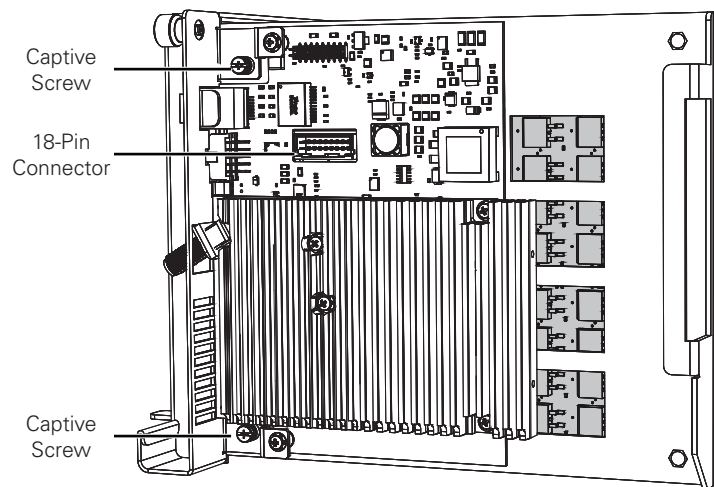

Fig. 7-3, Captive Screws
- Fasten the transponder to the inverter module by tightening the two captive screws (**Fig. 7-3, Captive Screws**). It is recommended that the screws be tightened alternately, a few turns at a time, so the transponder aligns in parallel to the inverter module.